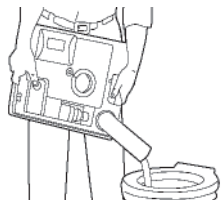

Figure B55: Emptying Waste Holding Tank
5. Carry the waste holding tank to any permanent toilet facility. Rotate the pour-out spout to the desired position. Remove the cap. Depress the air relief valve with your thumb while emptying (Figure B55).